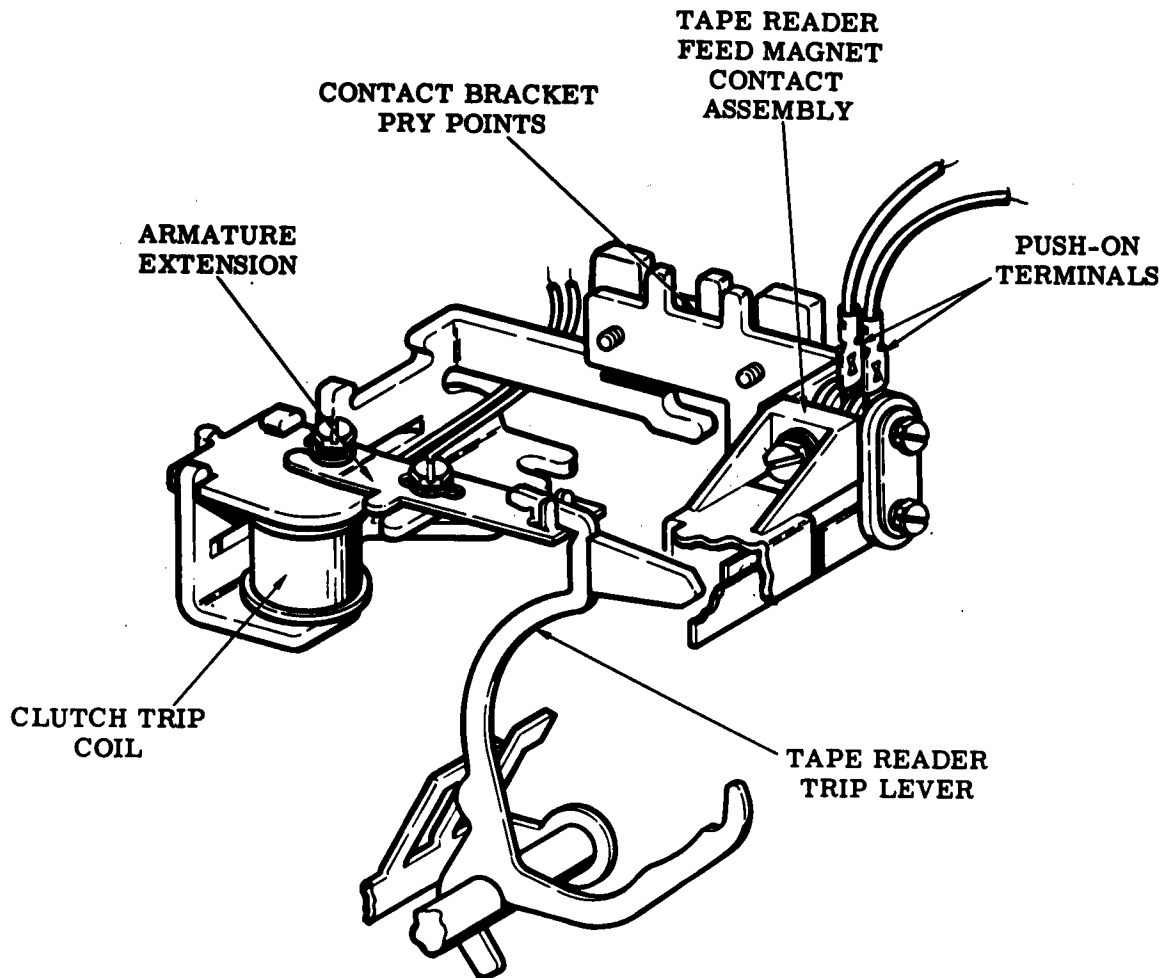

Figure 3 - Clutch Trip Magnet Assembly
2.04 To remove the tape reader feed magnet contact (Figure 3), proceed as follows.
2.05 To remove tape reader clutch trip magnet assembly (Figure 3), proceed as follows.